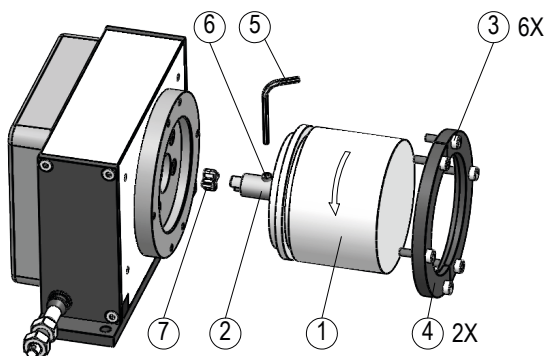

Fig. 4: Encoder mounting
The wire actuated unit is ready to be fitted to an incremental or absolute encoder (Fig. 4).
1. For adjusting the reference point loosen the screws ⑥ (see Fig. 4) until the encoder can be turned.